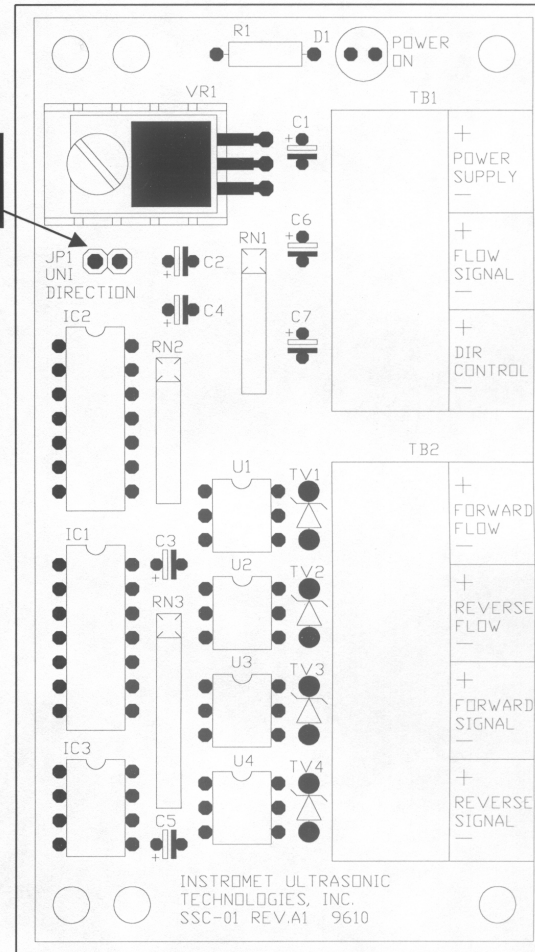

Figure 4: Frequency Control Card, SSC-01, Rev. A1 / Carte de stabilisation de fréquence SSC-01, rév. A1
- SSC-01, Rev. A1 (see Figure 4)
- SSC-01, rév. A1 (voir figure 4)